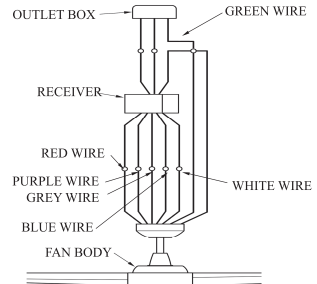

FIG.8
2. Connect the red wire from receiver to the red wire from fan with wire nut. Connect the purple wire from receiver to the purple wire from fan with wire nut. Connect the blue wire from receiver to the blue wire from fan with wire nut. Connect the grey wire from receiver to the grey wire from fan with wire nut. Connect the white wire from receiver to the white wire from fan with wire nut. Connect the green or bare copper wire from outlet box to the green wires from receiver, hanger bracket and down rod ball with wire nut. (see Fig.8)